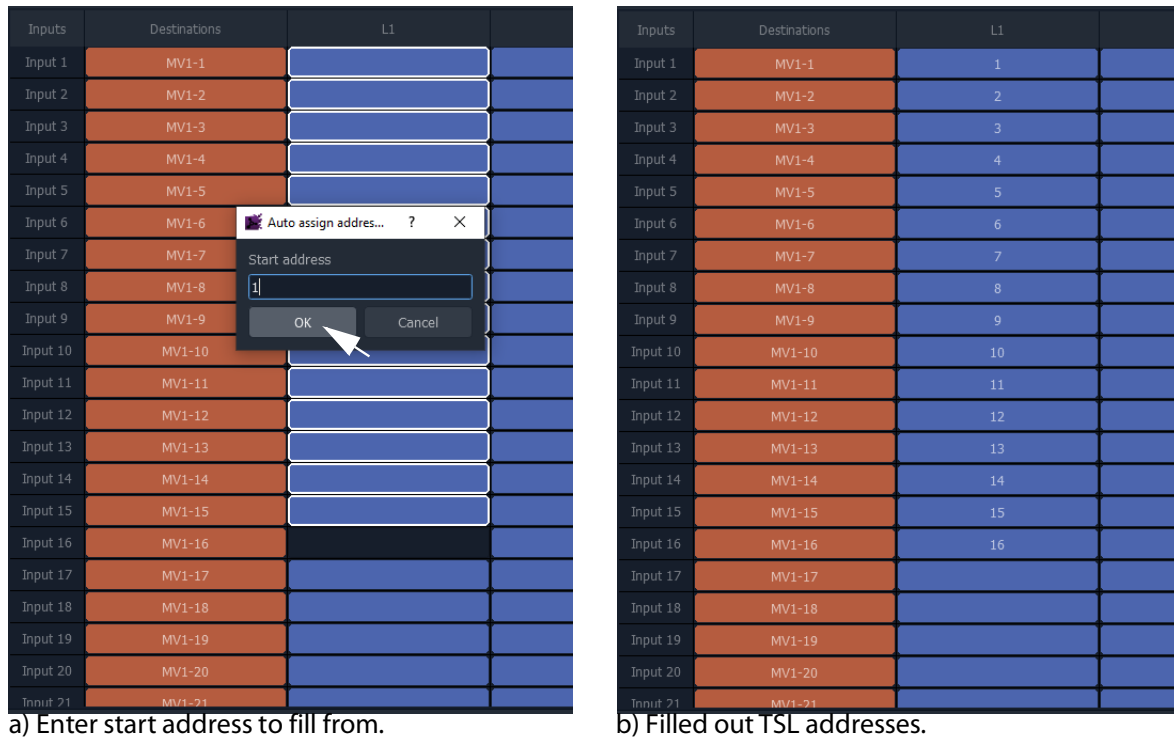

Fig. 9-4: TSL Address Range Filled Out
- 3 Click on the **Auto-Assign TSL Addresses** button and enter a start TSL address in the pop-up dialog. (See Figure 9-4.)